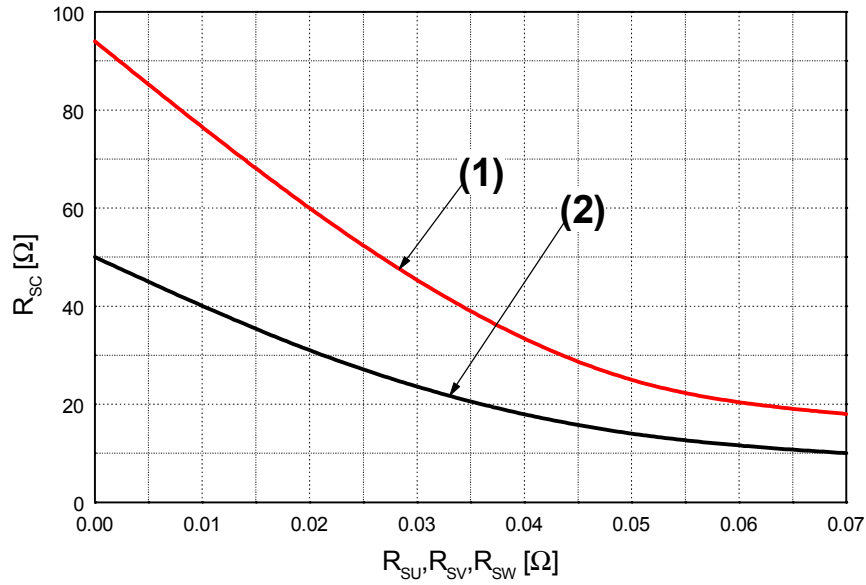

Fig. 6. R_{SC} Variation by change of Shunt Resistors (R_{SU}, R_{SV}, R_{SW}) for Short-Circuit Protection
- Short-circuit current protection is functioning only at the low-sides. It would be recommended that the value of the external sensing resistor (R_{SC}) should be selected around 50 Ω in order to make the SC trip-level of about 30A at the shunt resistors (R_{SU}, R_{SV}, R_{SW}) of 0Ω. For the detailed information about the relationship between the external sensing resistor (R_{SC}) and the shunt resistors (R_{SU}, R_{SV}, R_{SW}), please see Fig. 6.